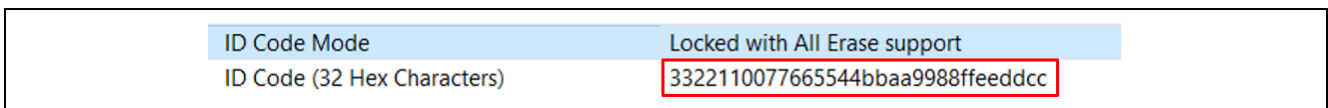

Figure 53. Setup ID code in configurator
Step 13. Reset the OSIS ID to all FFs in the configurator for the blinky project (see Figure 53) and compile the project.